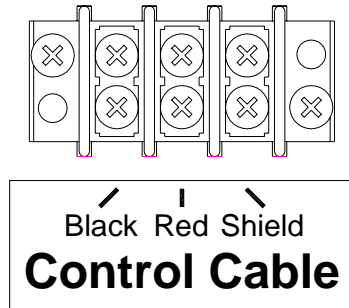

Figure 11 Control Cable Wiring Diagram
3. Connect the control cable to the **Control Cable** terminal block on the junction chassis according to Figure 11.